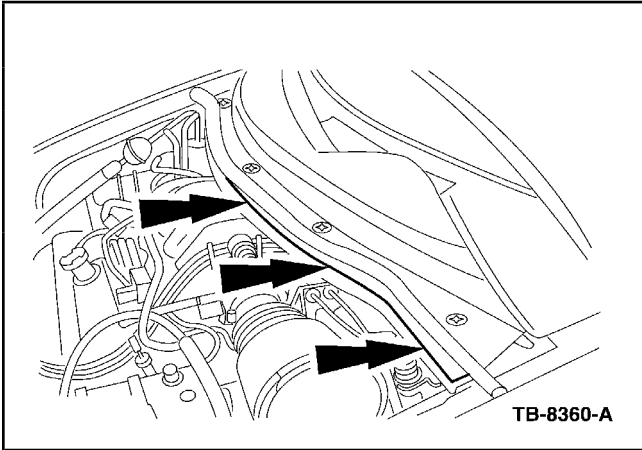

Figure 13 - Article 05-23-7
20. Add Clear Silicone Rubber (TA-32, or equivalent) to the front seam between the upper and lower cowl in the area above the transaxle (Figure 13).